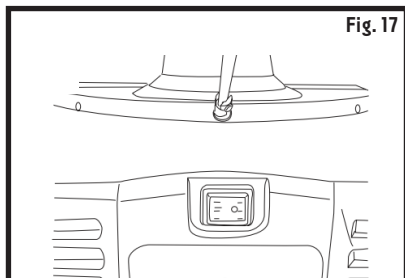

Fig. 17
4. On this model, the LED light can be used to illuminate the surface in front. To use the light, turn on the light switch located on the back side of the snowblower (Fig. 17).